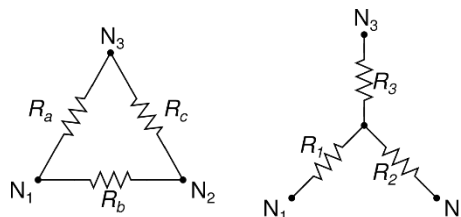

FIG 5.2
The two circuits to be investigated in this experiment are the delta (Δ) and the wye (Y), both of which appear in Fig 5.2 to convert a Δ to Y (or vice versa), we use the following conversion equations: